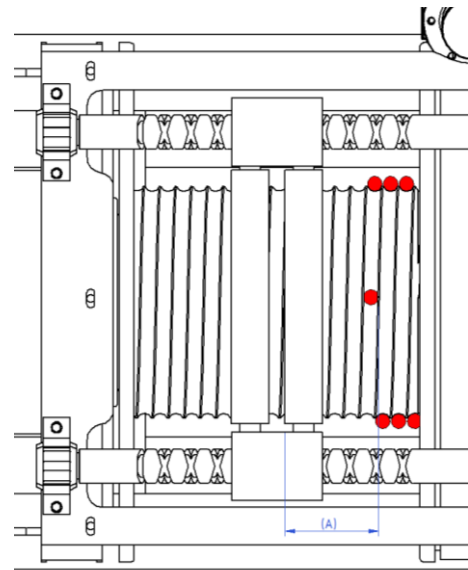

Figure 5.5.2
The guide rollers on the spooling gear can now be adjusted by either turning the hand wheel (if applicable) or the shaft of the spooling gear. The spooling block should be positioned in such a way that the left side of the right guide roller has the same distance towards the drum flange as the before measured length of departing cable. The dimension of distance (A) should be zero, see figure 5.5.2. Be sure that the spooling blocks travels the same direction as the cable. Push in the hand wheel (if applicable) or lock the chain to reconnect the spooling gear with the winch drum, from now the spooling gear should work properly.